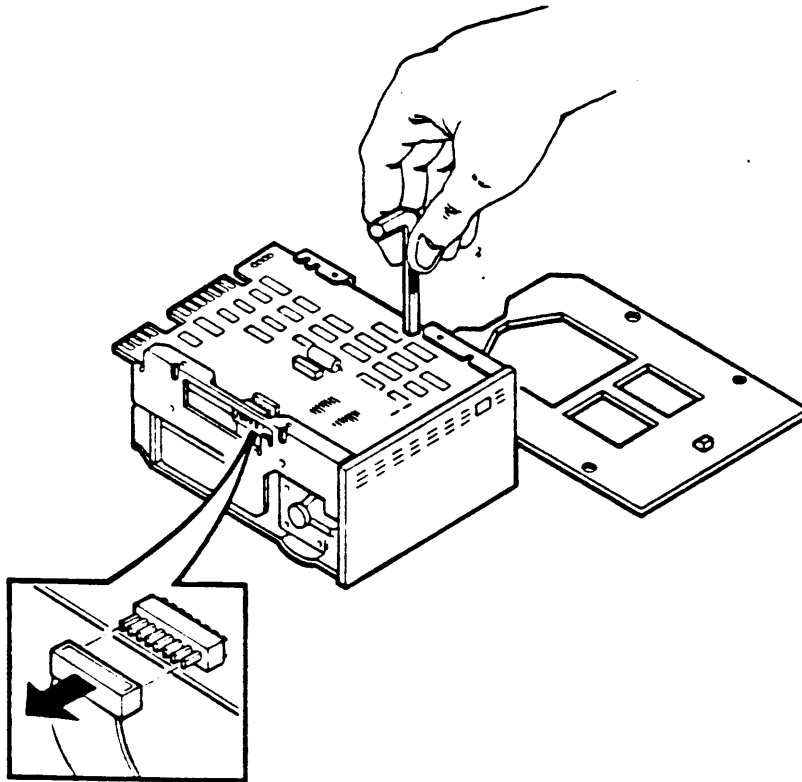

Figure 8-8 RD51 disk drive allen screws and connector P5 removal.
2. Using a 3/32-inch allen wrench, remove the four screws that hold the read/write printed circuit board to the fixed disk drive (Figure 8-8).